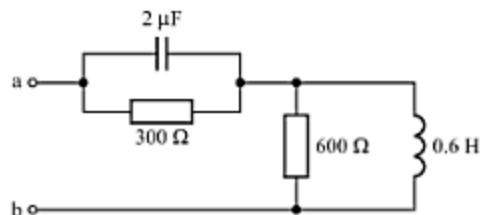

Fig. C-46
- C-43.** Find \mathbf{Z}_{ab} for the circuit shown in Fig. C-46 if ω is equal to (a) 800 rad/s, and (b) 1600 rad/s.